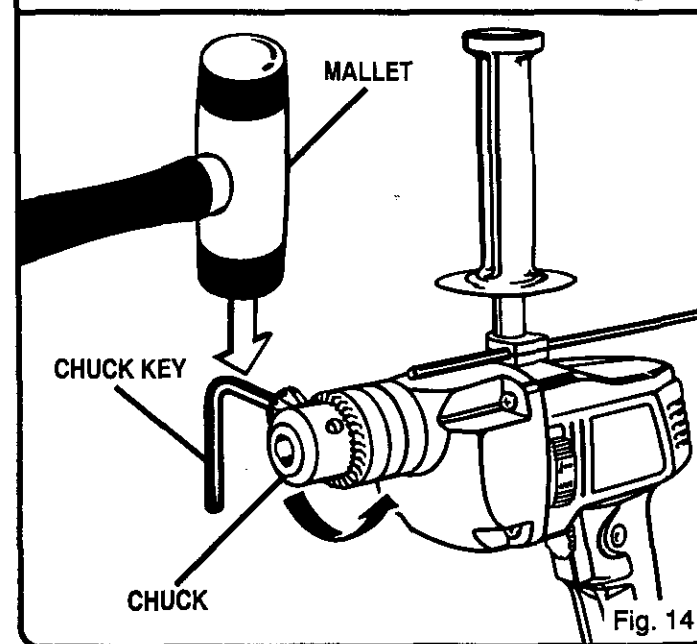

Fig. 14
- It can now be unscrewed by hand. See Figure 14.